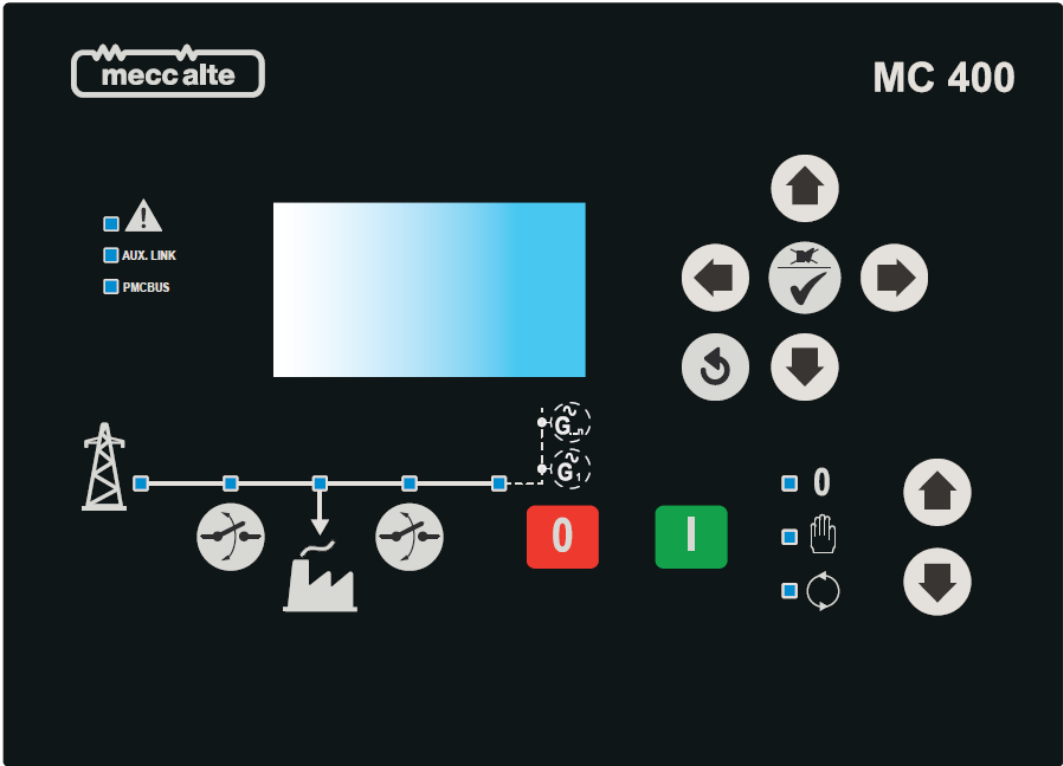

Fig. 1 - Front Panel
6.3 Indicators (ref. to fig. 1 and 2)